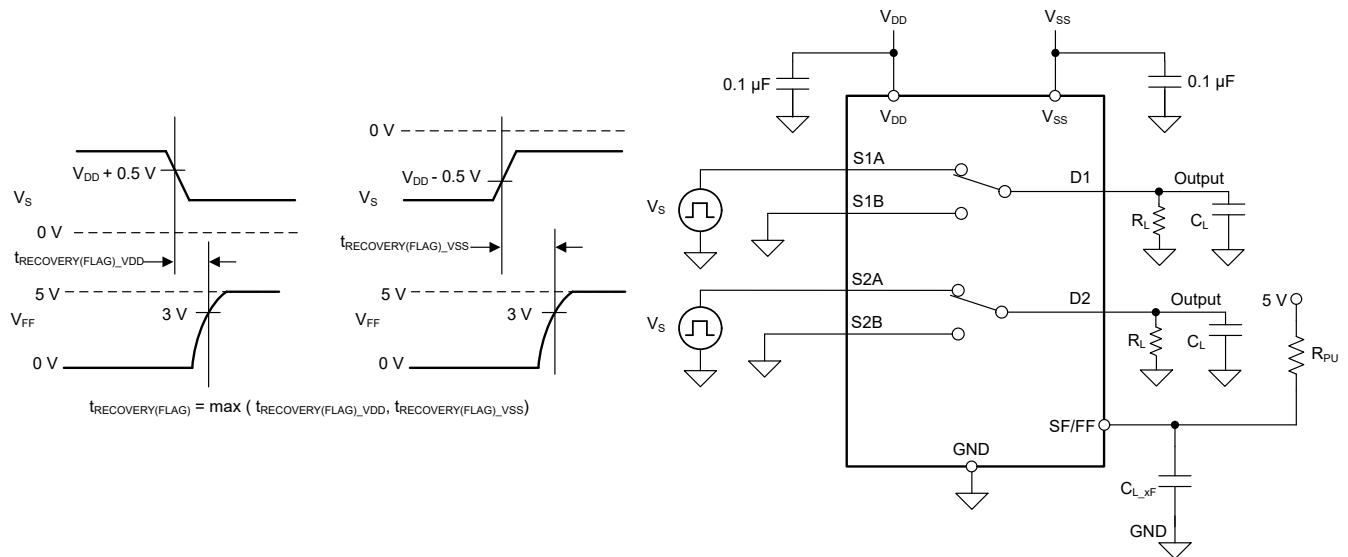

图 7-12. Fault Flag Recovery Time Measurement Setup
Fault flag recovery time ( $t_{RECOVERY(FLAG)}$ ) measures the delay between the source voltage falling from overvoltage condition to fault supply voltage ( $V_{DD}$  or  $V_{SS}$ ) plus 0.5 V and the general fault flag (FF) pin to rise above 3 V with 5 V external pull-up. 图 7-12 shows the setup used to measure  $t_{RECOVERY(FLAG)}$ .